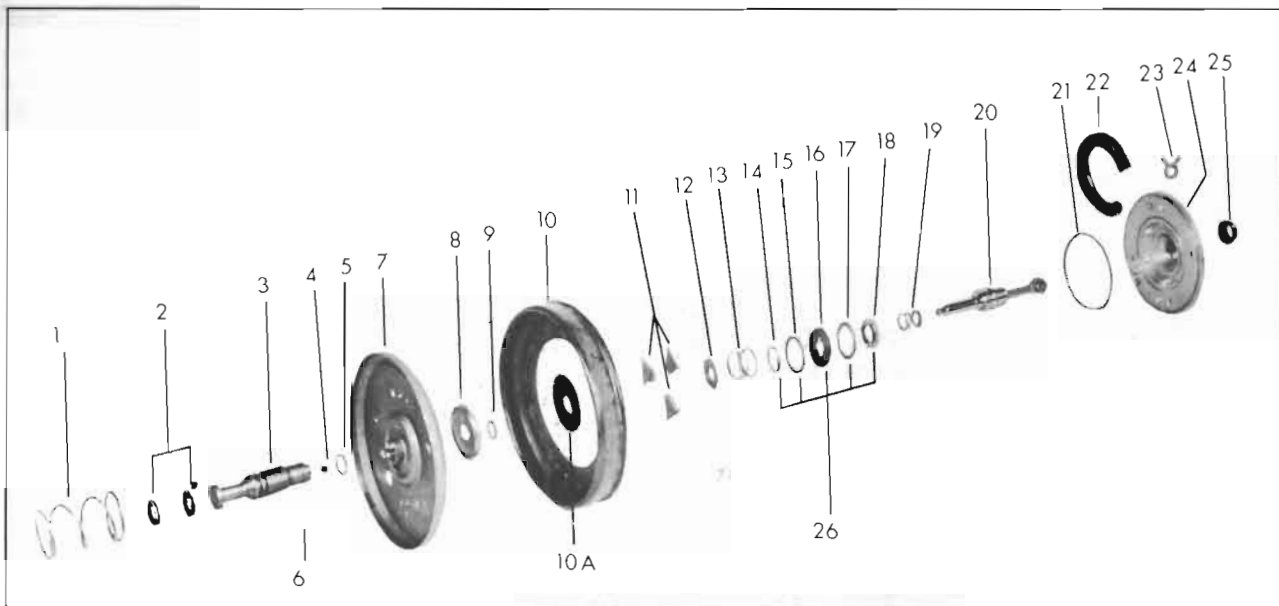

Figure 9-17—Exploded View of Power Piston Assembly
13. From floating control valve and diaphragm assembly (Figure 9-17), remove floating control valve spring retainer. Remove reaction diaphragm retainer from under lip of reaction diaphragm, then remove reaction diaphragm and support plate from hub of floating control valve.